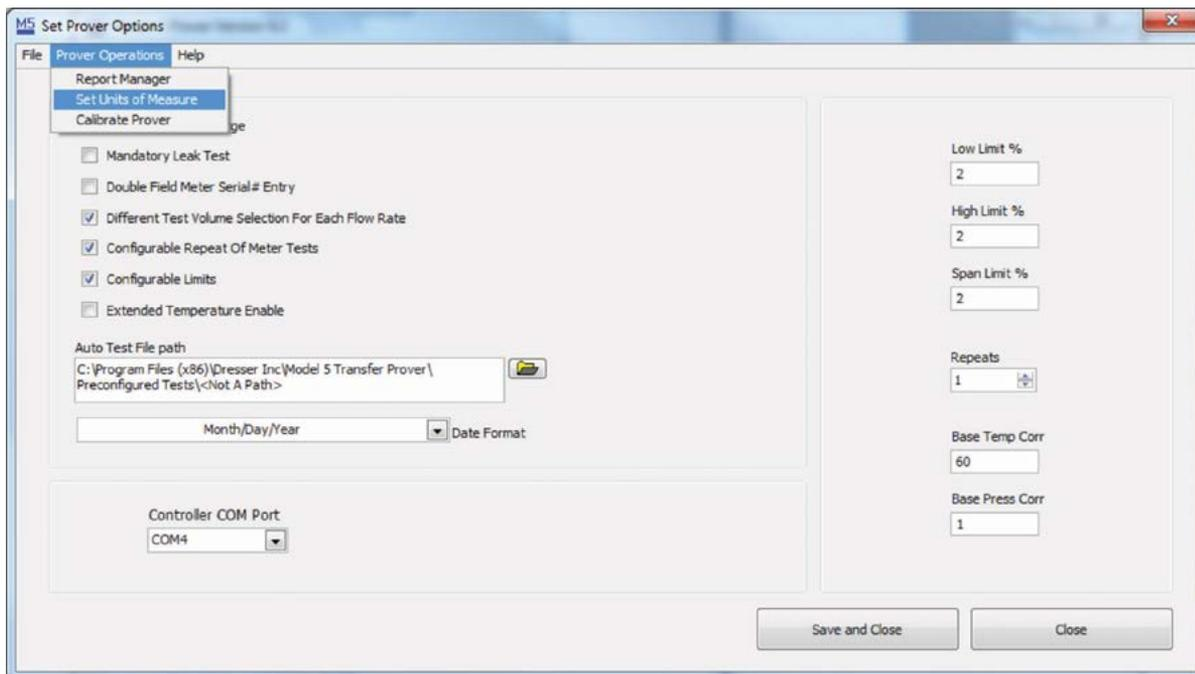

Figure 114: Set Units of Measurement Selection
4. A new window will open. Select "Prover Operations" and "Set Units of Measurement" as shown in **Figure 114**.